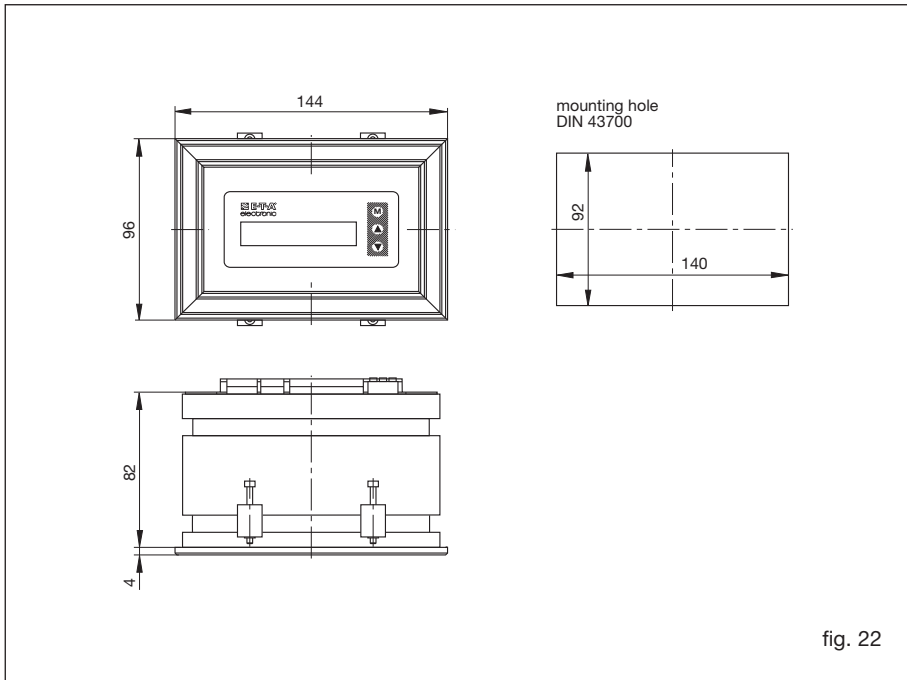

fig. 22
- Insert housing into front of mounting hole and fix with 4 screws (see fig. 22) from the rear.